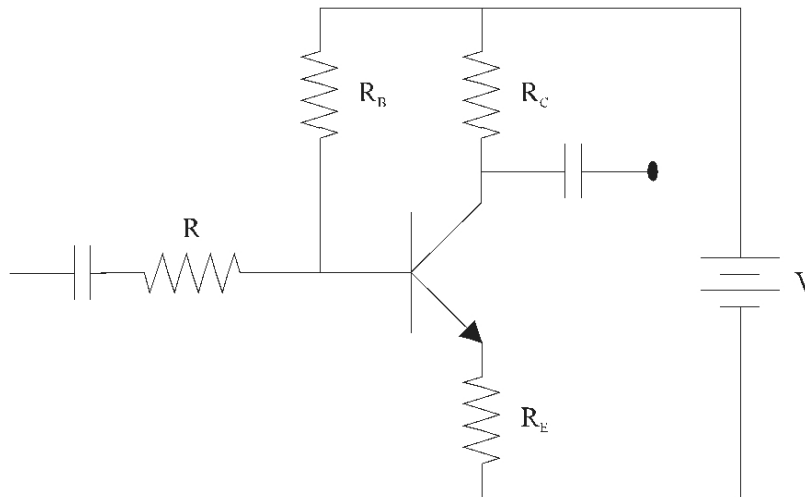

Figure 7-7-1. Transistor amplifier circuit.
1. Assemble the circuit shown in Figure 7.7.1 with $R = 5K\Omega$.